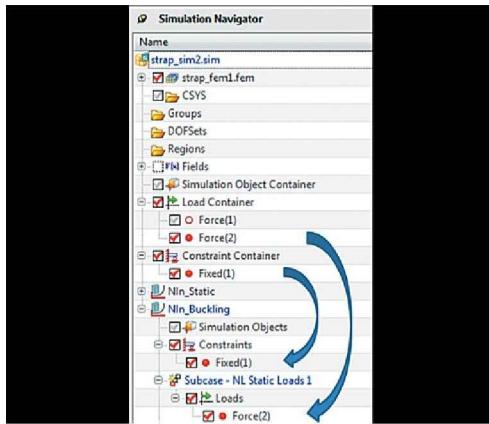

Figure 2.21. Specifying loads and constraints
- 9.1. In the model tree of the Simulation Navigator tab, expand the *Constraint container* node and drag the *Fixed(1)* constraint into the *Constraints* node of the *NIN_Buckling* solution (Figure 2.21). In a similar way, drag the *Force (2)* load into the *Loads* node of the simulation case *Subcase – NL Static Loads1*.